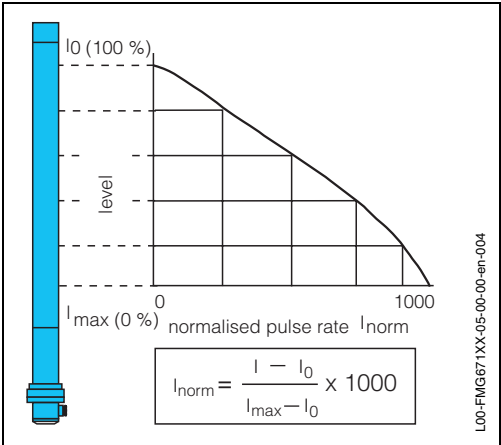

Fig. 4.7 Standard table for sensor linearisation
- If you write down the value pairs during filling and later enter them as a manual table, the pulse rate must be converted into a standardized pulse rate (for equation, s. Fig. 4.7, page 38).